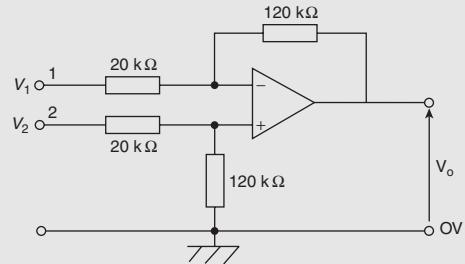

Figure RT5.2
- In the differential amplifier shown in Figure RT5.2, determine the output voltage,  $V_0$  when: